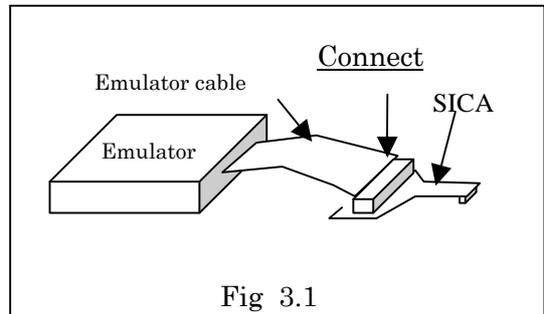

Fig 3.1
1. Turn off the power to emulator and the target board! Connect the emulator cable, the emulator and target board as shown in Fig 3.1.